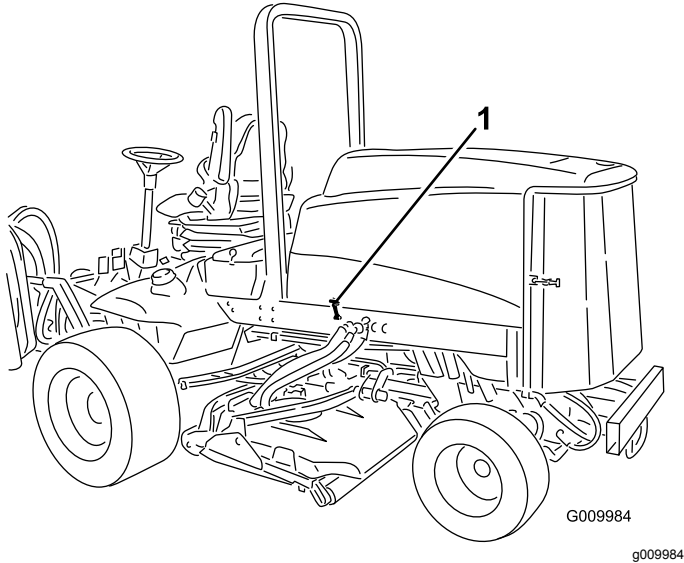

Figure 21
1. Release hood latches (Figure 21) and pivot open the hood.